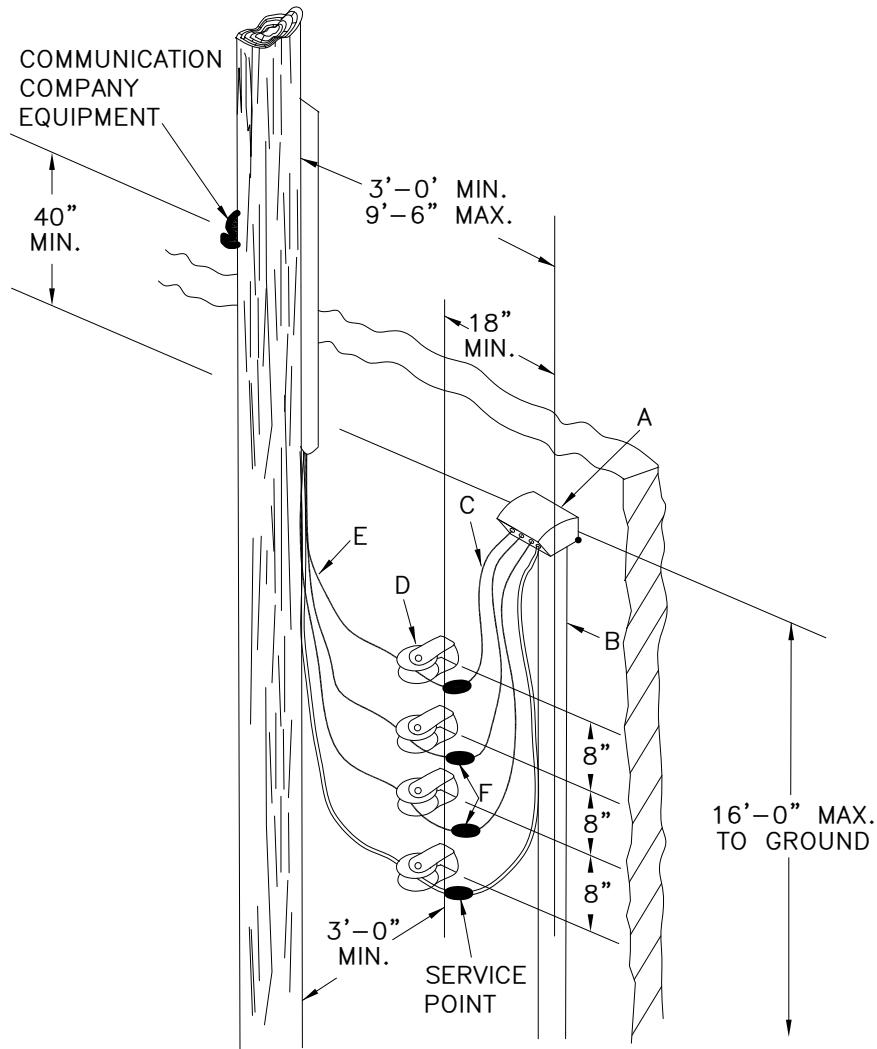
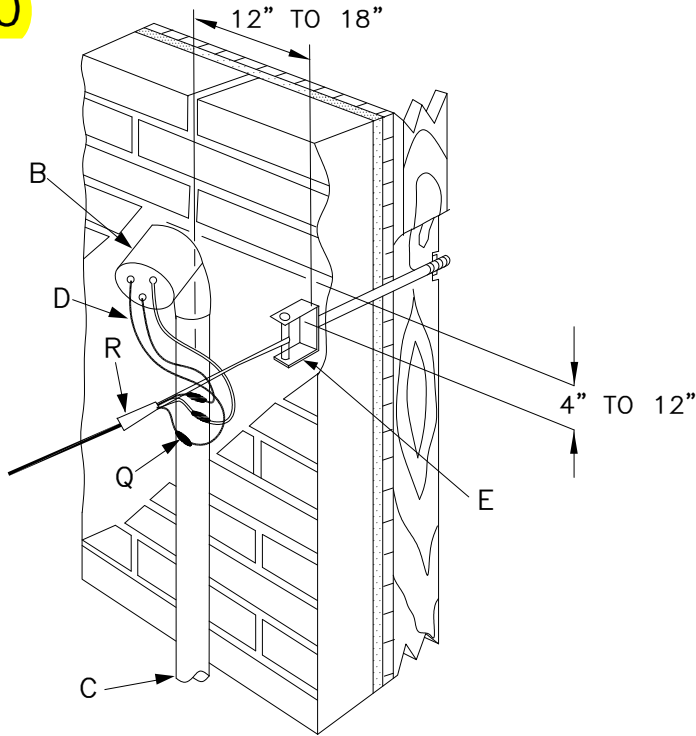
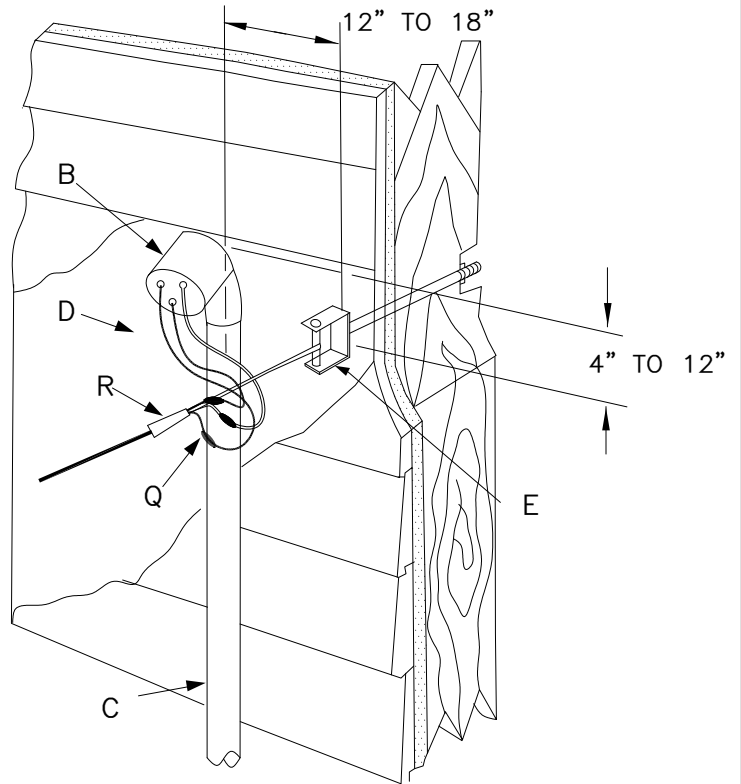
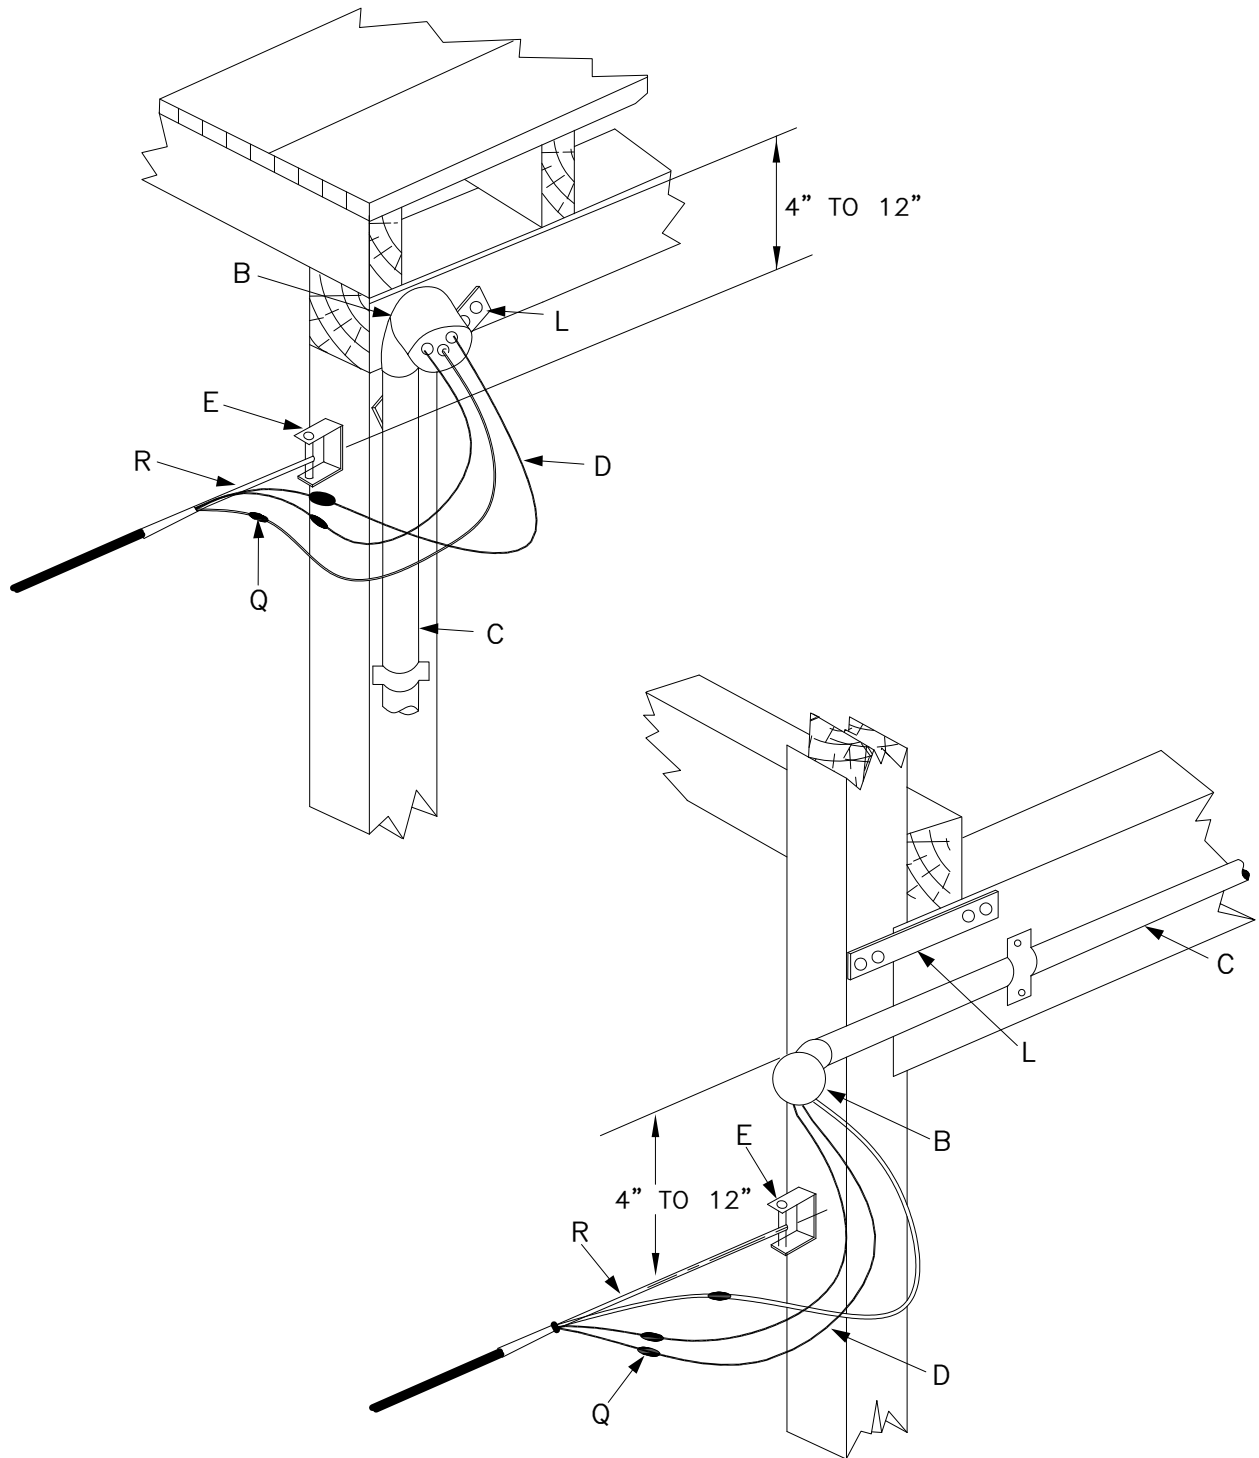

FIGURE-1
FIGURE-2
FIGURE-3
FIGURE-4
- THIS STANDARD DESCRIBES THE REQUIREMENTS FOR THE ATTACHMENT OF SINGLE PHASE SERVICES OF UP TO 400 AMPS TO A: MASONRY WALL (FIGURE-1), BRICK VENEER WALL (FIGURE-2), FRAME OR STUCCO WALL (FIGURE-3), PORCH POST (FIGURE-4), WOOD RISER (FIGURE-5), STEEL CONDUIT RISER (FIGURE-6) OR ROOF PLATE INSTALLATION (FIGURE-7).